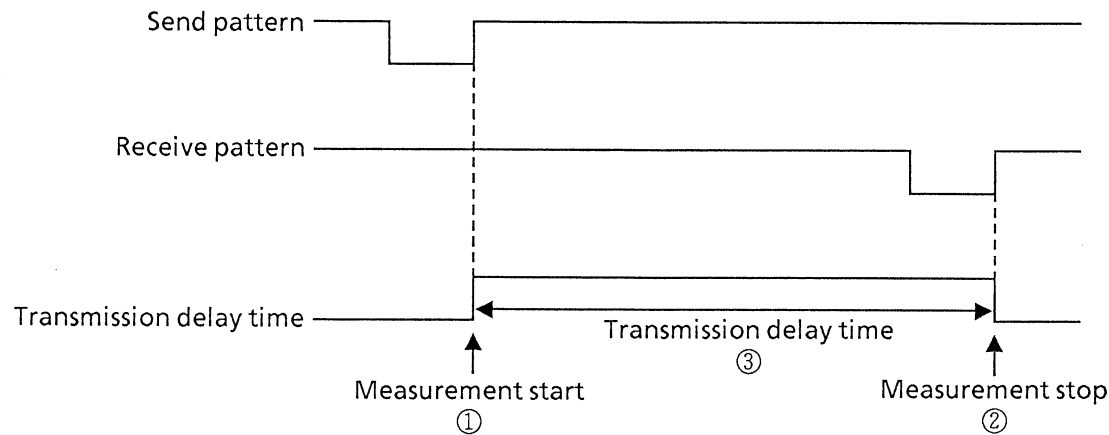

Fig. 6-12 Transmission Delay Time Measurement Timing Chart
③ of Fig. 6-12 is the round-trip transmission delay time.